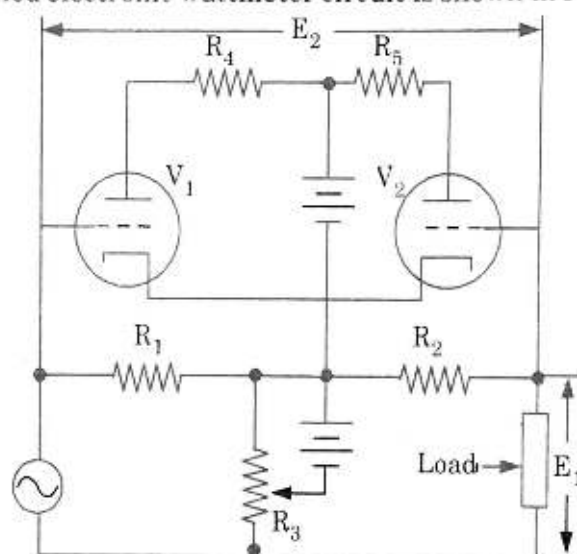

Fig. 4.1.1. Simple electronic wattmeter circuit.
2. A simplified electronic wattmeter circuit is shown in Fig. 4.1.1.